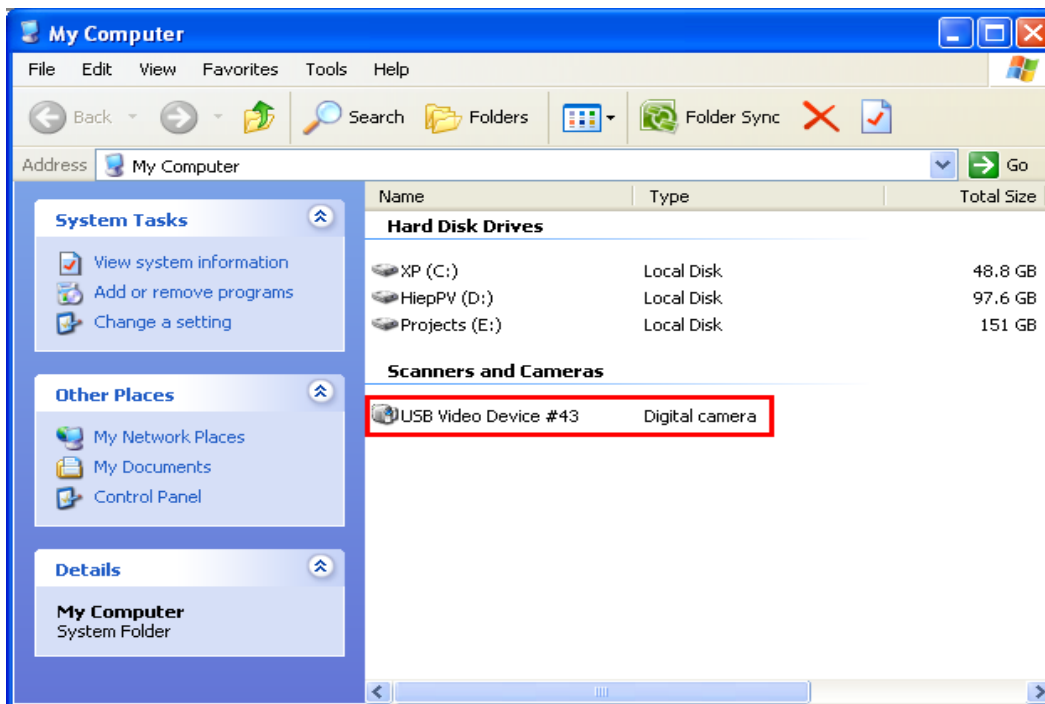

Figure J-5. USB video device entry
5. Double-click on My Computer icon, USB Video device icon is also appeared as shown in Figure J-5